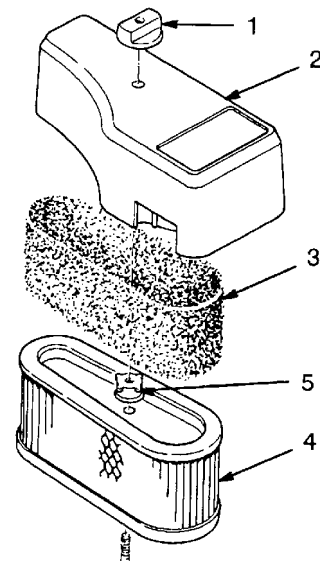

Figure 16
2. Remove the knob and remove the air cleaner cover (Fig. 16).
3. Carefully slide the foam element off of the paper element (Fig. 16).
4. Unscrew the nut and remove the paper element (Fig. 16).
2. Carefully slide the foam element onto the paper air cleaner element (Fig. 16).
3. Slide the air cleaner assembly onto the long rod. Tighten the nut securely (Fig. 16).
4. Install the air cleaner cover and knob (Fig. 16). Tighten the knob securely.